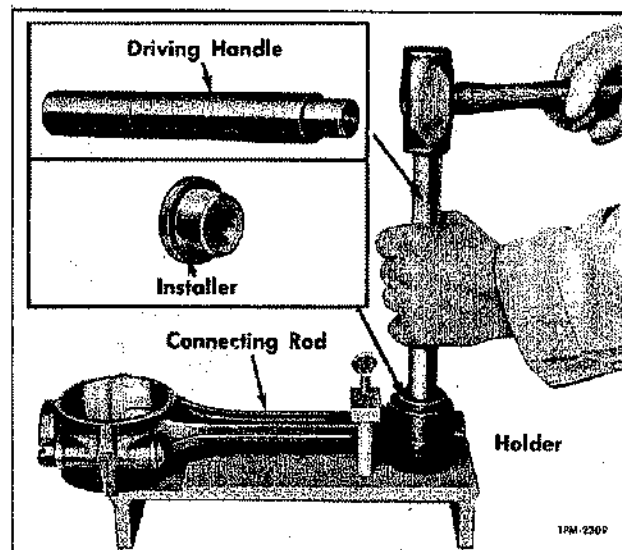

Figure 41—Removing or Installing Piston Pin Bushings in Connecting Rod
Piston pin bushings may be removed from the connecting rod with remover and replacer tools shown in figure 41 in the following manner:
2. Drive bushings from rod, using driving handle in manner illustrated in figure 41.
Piston pin bushings are replaced in the connecting rod with the same tool used for their removal (fig. 41).